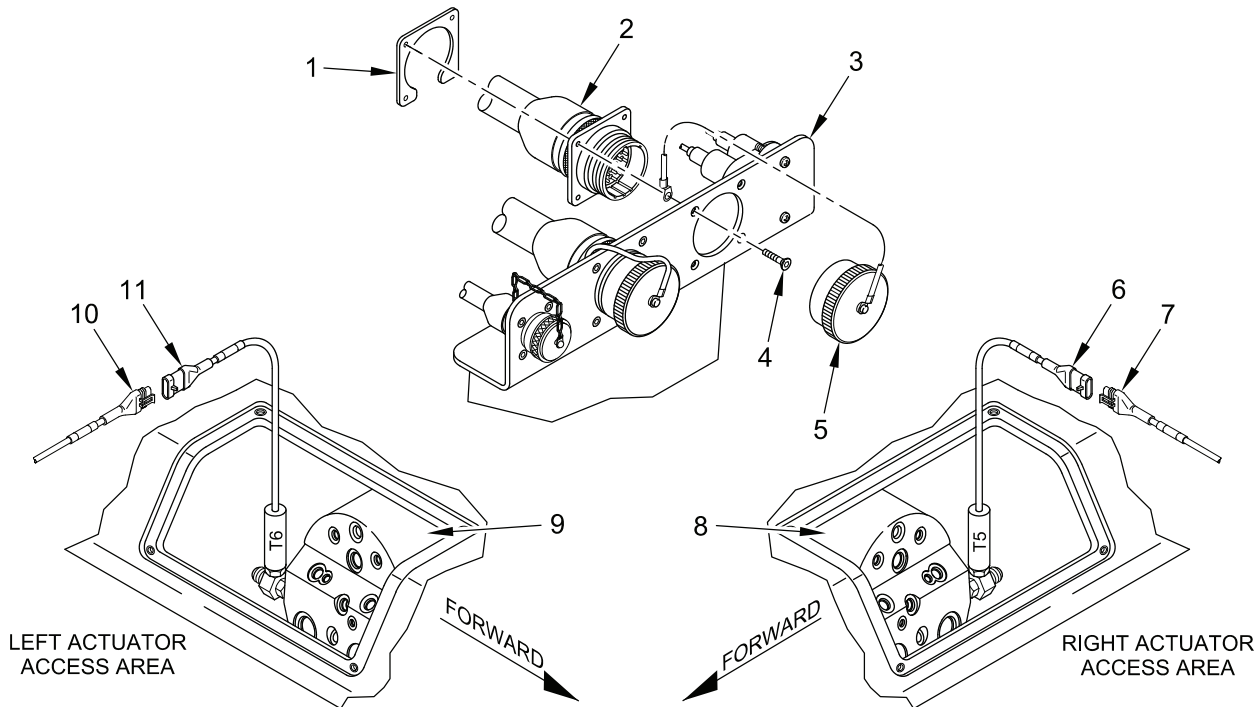

Figure 5. Installing Wiring Harness W3 To Disconnect Bracket And Actuator Area
6. From access under vehicle connect the following W3 wiring harness connectors to the forward right manifold (Figure 5, item 23): connector P2 (Figure 5, item 20) to valve V2 (Figure 5, item 21), connector P10 (Figure 5, item 19) to valve V10 (Figure 5, item 22), and connector P11 (Figure 5, item 1) to transducer T11 (Figure 5, item 2).
7. Connect wiring harness W3 connector P31 (Figure 5, item 10) to transducer T6 (Figure 5, item 11) at forward left actuator #1 (Figure 5, item 9).
8. Connect wiring harness W3 connector P5 (Figure 5, item 7) to transducer T5 (Figure 5, item 6) at forward right actuator #1 (Figure 5, item 8).
9. Install wiring harness W3 connector J1 (Figure 5, item 2) to HDC disconnect bracket (Figure 5, item 3) with nutplate (Figure 5, item 1), and four screws (Figure 5, item 4). Attach dust cap (Figure 5, item 5) to connector J1.